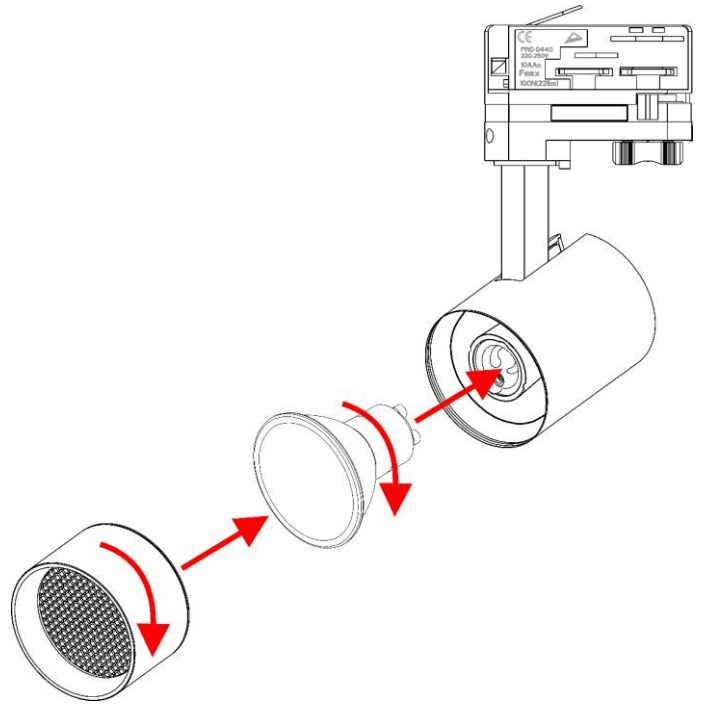

Fig. 05
- 02) Align the light bulb pins with the **lamp holder (06)** and turn the light bulb clockwise to fit it into place (see Fig. 05)
- 03) Align the **honeycomb filter section (07)** with the **track head (05)** and turn it clockwise to secure it (see Fig. 05).